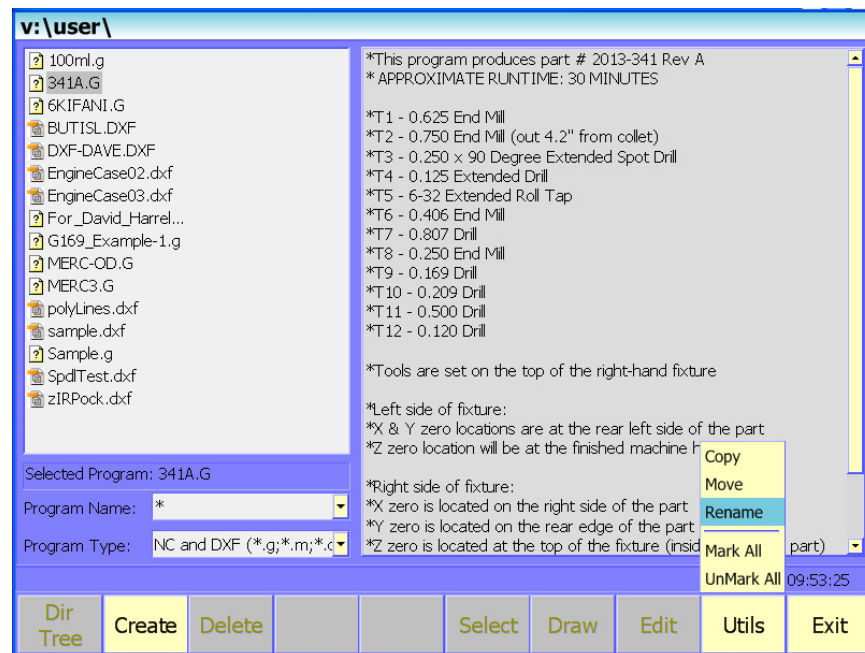

Figure 10-6, Utils Pop-up Menu
On the Program screen, select **Utils (F9)** to display the Utilities pop-up menu. Refer to Figure 10-6, Utils Pop-up Menus. Refer to **Table 10-3**.
Use **Copy** to copy programs to or from another directory, such as a subdirectory or a Universal Serial Bus (USB). Refer to Figure 10-6, Utils Pop-up Menu.
2. Press **Utils (F9)** to display the Utils pop-up menu (refer to Figure 10-6, Utils Pop-up Menu and Table 10-3, Utils Soft Keys from Program Screen). Select **Copy** to display the **Select Copy to destination:** pull up menu.
To move a program copies the currently highlighted file or files that were previously marked to or from another directory, such as a subdirectory or a Universal Serial Bus (USB). Refer to Figure 10-6, Utils Pop-up Menu.
4. Press **Utils (F9)** to display the Utils pop-up menu (refer to Figure 10-6, Utils Pop-up Menu and Table 10-3, Utils Soft Keys from Program Screen). Select **Move** to display the **Select Move to destination:** pull up menu.
2. Press **Utils (F9)** to display the Utils pop-up menu (refer to Figure 10-6. Utils Pop-up Menu and Table 10-3. Utils Soft Keys from Program Screen). Select **Rename**, and press **ENTER**.
1. In the Program Manager, press **Utils (F9)** to display the pop-up menu. Refer to Figure 10-6, Utils Pop-up Menu and Table 10-3, Utils Soft Keys from Program Screen). Select **Mark All**.
1. In the Program Manager, select **Utils (F9)** to display the pop-up menu. Refer to Figure 10-6, Utils Pop-up Menu and Table 10-3, Utils Soft Keys from Program Screen). Select **UnMark All**.